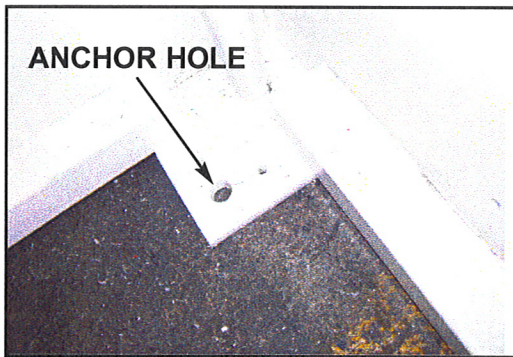

Figure 11
## Anchoring & Bracing - See Figures 11, 12, and page 5.
6. Anchor four corners inside of lift using minimum or 3/8" diameter anchors in all four corners (inside lift under carriage). You may want to do this after carriage is raised to upper location. See Figure 11.